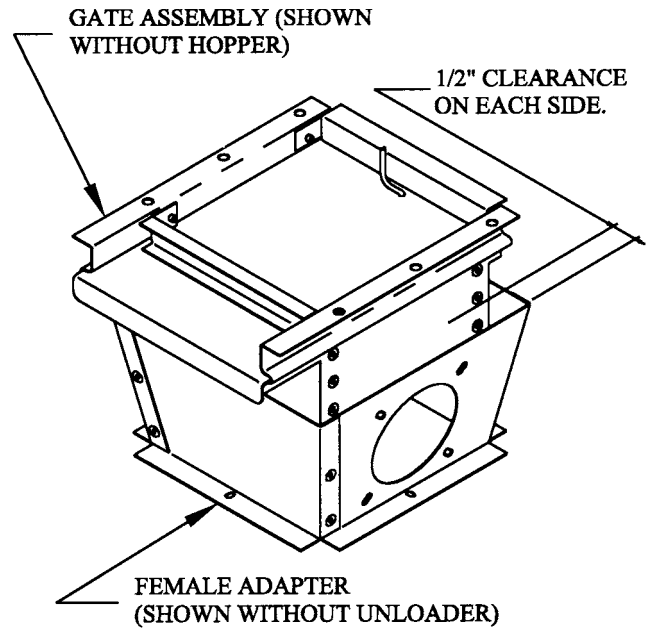
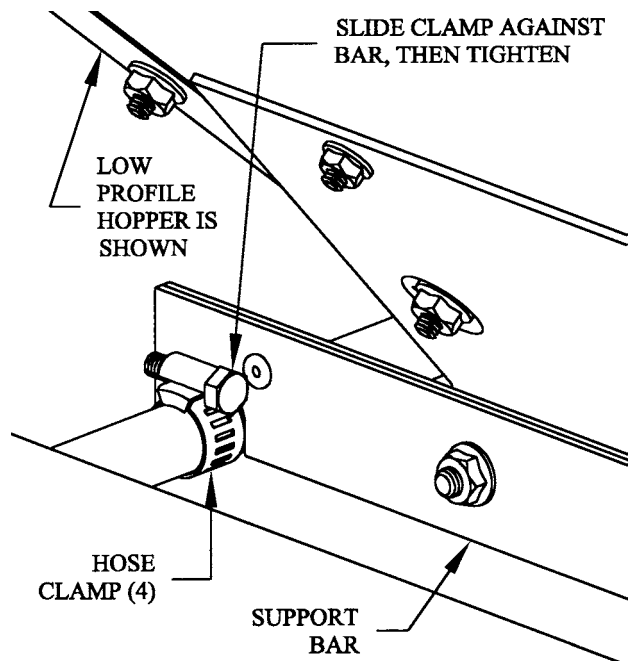

FIG. 19
FIG. 20
STEP 15. Be sure hopper is centered with at least 1/2" clearance on all sides between the gate assembly and the female adapter. See Fig. 19. Secure hopper by using the hose clamps found on the cross bars. Slide the hose clamps against hopper support bars and tighten. See Fig. 20.